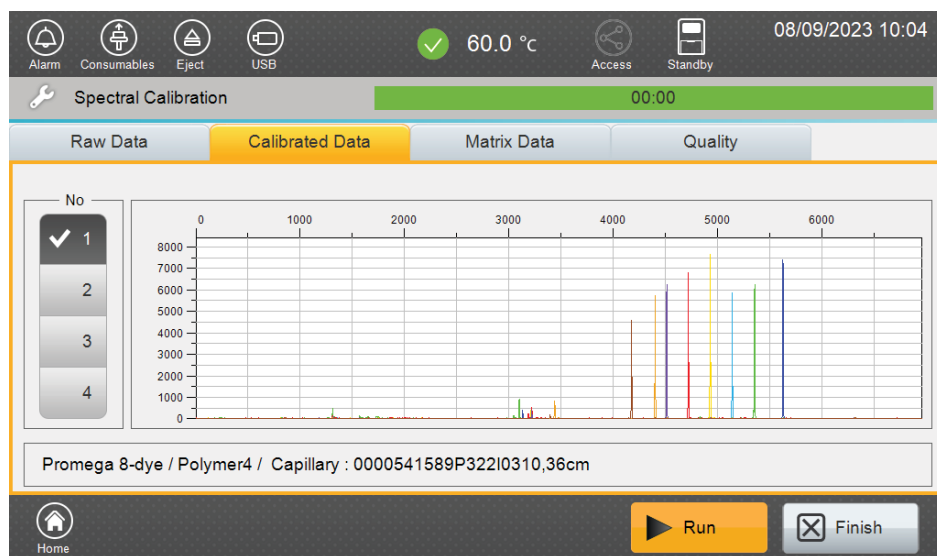

Figure 11. Spectral Calibration 'Calibrated Data' tab.
2. The 'Calibrated Data' tab can be used to view the matrix peaks with both baseline and spectral applied for each capillary (Figure 11).